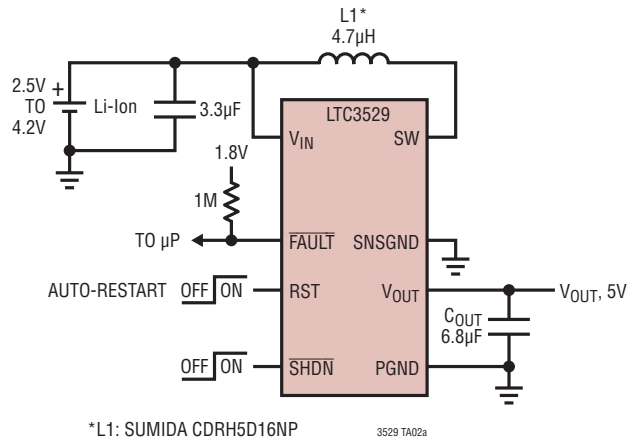

**Figure 1. LTC3529 Recommended PCB Layout**
The LTC3529 switches large currents at high frequencies. Special care should be given to the PCB layout to ensure stable, noise-free operation. Figure 1 depicts the recommended PCB layout to be utilized for the LTC3529. A few key guidelines follow:
1. All circulating current paths should be kept as short as possible. This can be accomplished by keeping the copper traces to all components in Figure 1 short and wide. Capacitor ground connections should via down to the ground plane in the shortest route possible. The bypass capacitors on  $V_{IN}$  and  $V_{OUT}$  should be placed close to the IC and should have the shortest possible paths to ground.
2. The PGND pin should be shorted directly to the exposed pad, as shown in Figure 1. This provides a single point connection between the small signal ground and the power ground, as well as a wide trace for power ground.
3. All the external components shown in Figure 1 and their connections should be placed over a complete ground plane.